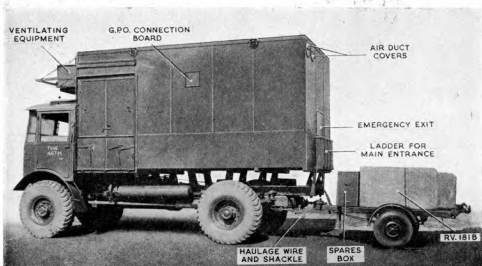

Fig. 36. R.V.467E with R.V.181B on tow
47. Fig. 36 and 37 show radio vehicle Type 467E with radio vehicle Type 181B attached. Radio vehicle Type 467E is a universal operations vehicle designed to house display unit Type 5 and ancillary equipment; radio vehicle Type 181B contains refrigeration plant for the operations vehicle. Display unit Type 5 (in AMES Type 21, Mk. 5) consists of one console Type 15A, one console Type 16, and one console Type 16C. Other items in the vehicle are :—